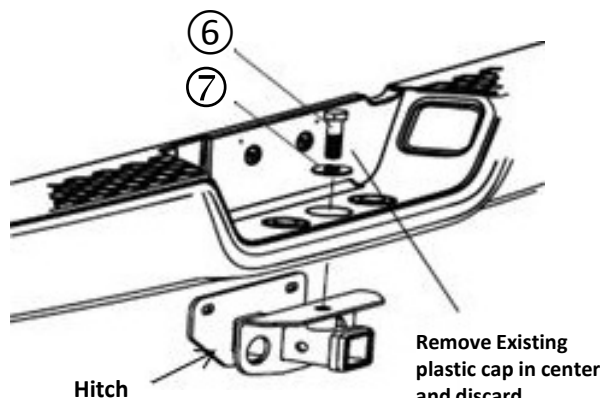

Figure 1
3. Loosely install hitch with ¾-10 x 3.00 hex bolt and ¾" conical washer to bumper beam. (see Figure 1)